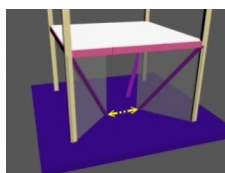

Figure 9.
4.8.1 Materials inside the building, when viewed from vertical projection, need to have an opening for access, as in Figure 9. The dimensions marked by red arrows in Figure 10 have to each be at least 5 cm.